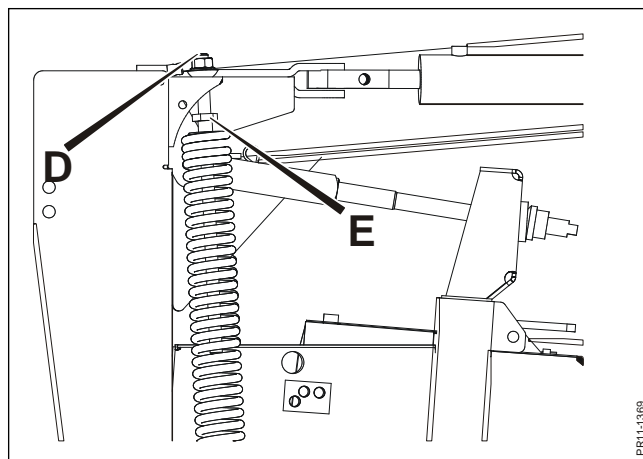

Fig. 3-7
- Fig. 3-7**      3) **The relief springs** are adjusted by means of the spindle **D**, until the cutterbar **extends suitable pressure on the ground.**
- Fig. 3-7**      A counter nut **E** holds the adjustment.